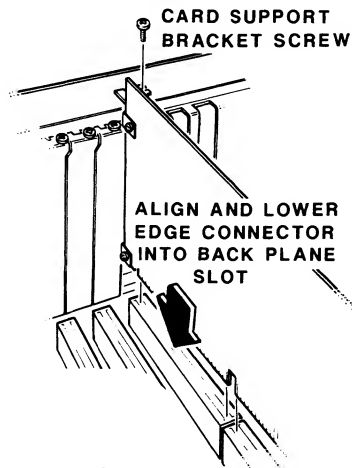

Figure 5-3. Installing a Circuit Card
3. Refer to Figure 5-3 and remove the screw that secures the bracket that covers the back panel card connector opening. Save the screw to use when you install the circuit card.